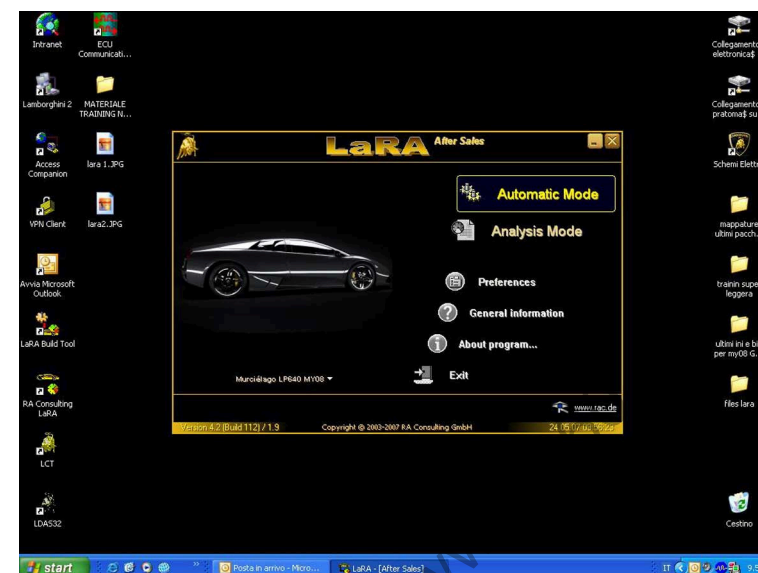

Fig.2
- The system starts automatically, showing the last screen opened on the car's display (**Fig.2**).